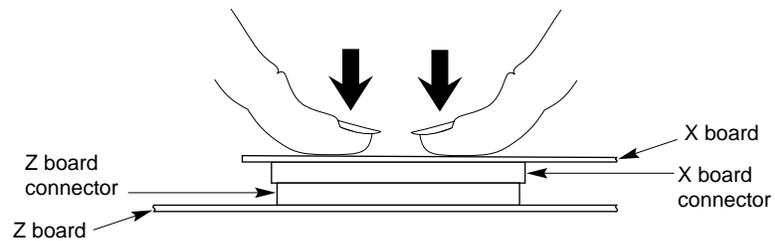

Figure 1-36 Seating the X Board's Connectors
8. Press to seat the X board's connectors into the Z board's connectors, as shown in Figure 1-36.
- Look underneath the X board to see the 96-pin connectors. Due to the other components on the board, it may be difficult to see the connectors. The male and female connectors must be touching along the entire shared surface, as shown in Figure 1-36. Be sure to check each end of the connector.